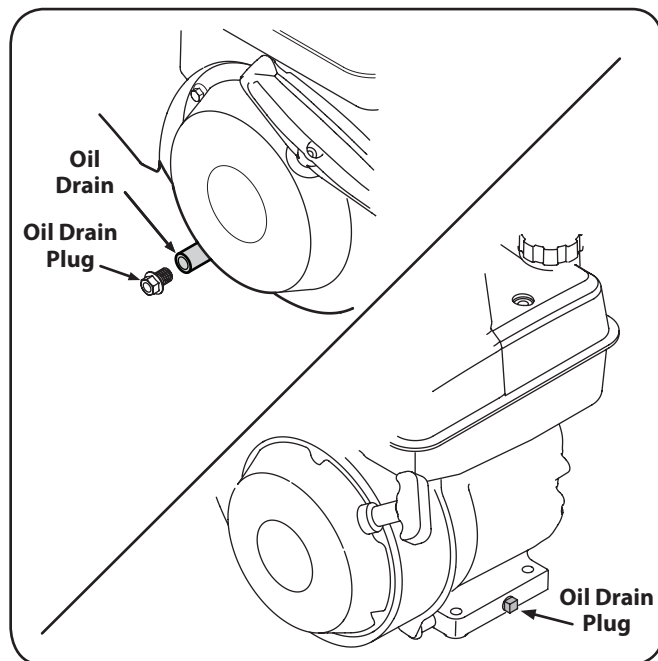

Figure 6-2
3. Be sure to find correct oil drain plug location, if present (see the equipment Operator's Manual instructions for additional information). See Fig. 6-2.
6. Remove the Oil drain plug. See Fig. 6-2.
**NOTE:** Depending on which engine model you have, the oil plug may be positioned differently. These positions include on the front and/or rear side of the block, or as an extended tube. Examples are shown in Figure 6-2.